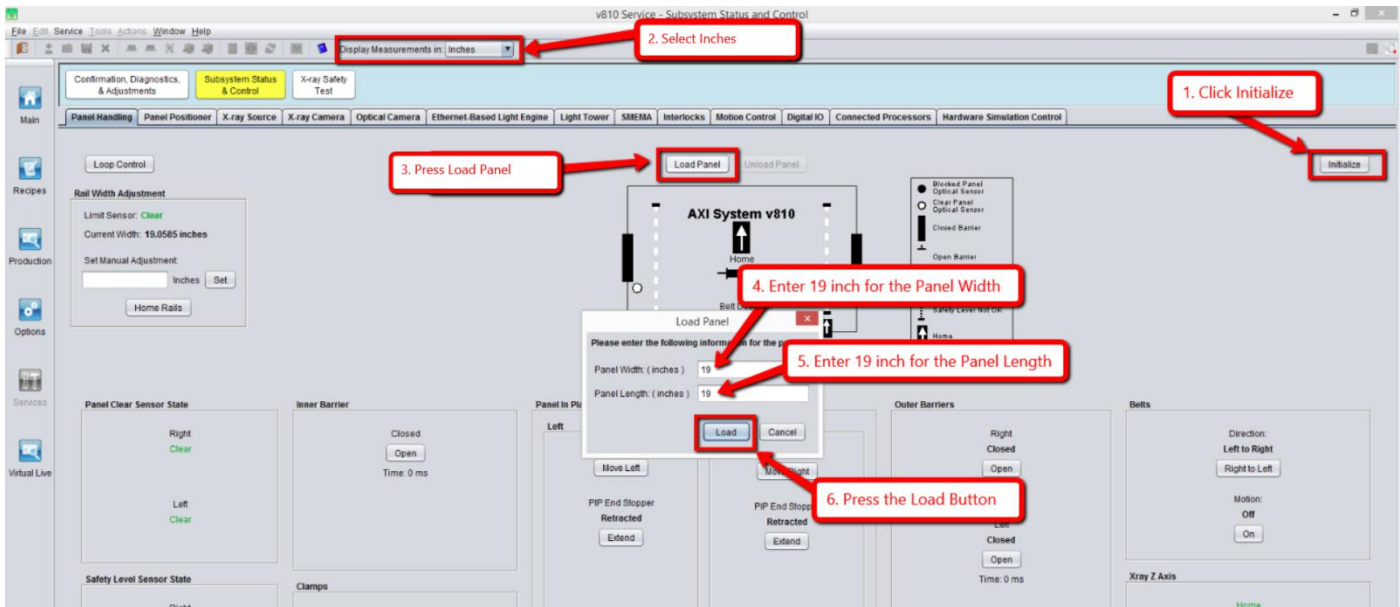

Figure 5 Panel Handling
4. Go to the **Panel Handling** and click **Initialize** as shown in the Figure 5.